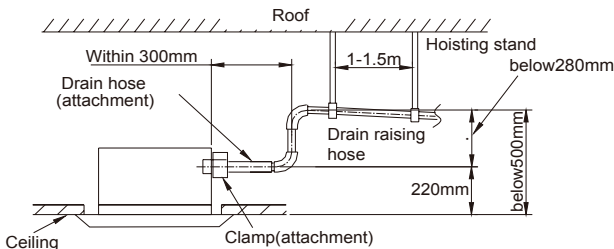

Fig.11
- (1) Install the drainage raising pipe at a height of less than 280 mm(as Fig.11).
- (2) Install the drainage raising pipe at a right angle to the unit and no more than 300 mm from the unit.